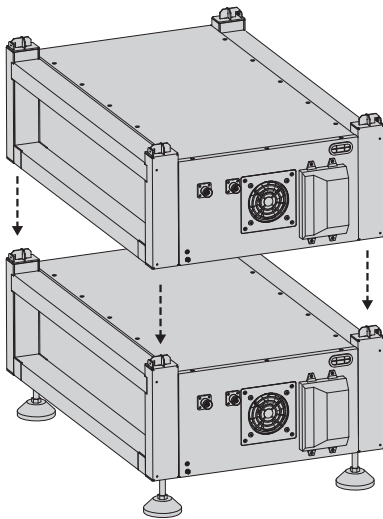
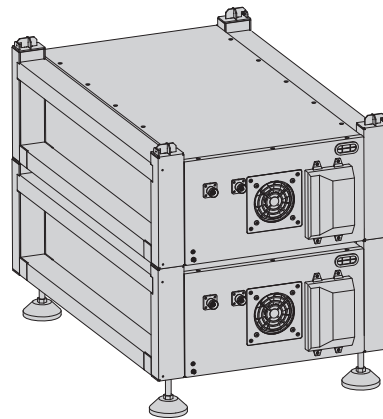

Figure 3
Figure 4
Step 2: As shown in the figure 3 & figure 4, stack the battery pack above the battery pack with the foot cup installed.